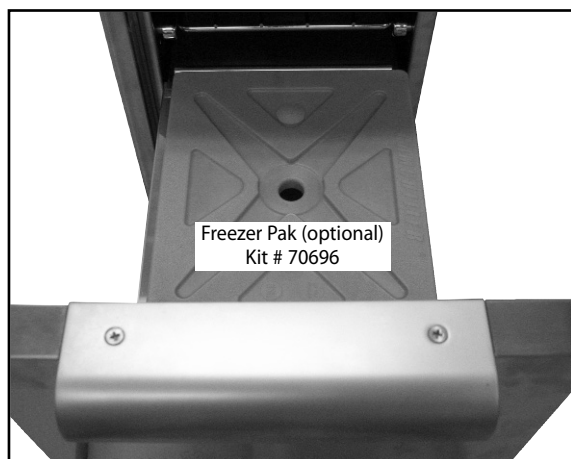

Fig. 18
3. Place frozen Freezer Pack in the steel tray on the second shelf, in appropriate cavity of Access Drawer (Fig. 18).